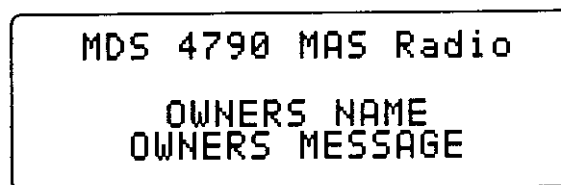

Figure 17. Startup Screen (Typical)
At initial power up (or after any extended period with no keypad activity), the LCD display shows the Startup screen (Figure 17). The startup screen displays the owner’s name and message. Typically shown is the system name and site name.
- **ESCAPE**—Returns you to the previously selected screen. It is a good way of cancelling a pending change. Also, by pressing the ESCAPE button three times, you can return to the Startup Screen (Figure 17) at any time.
- The radio displays the Startup screen similar to Figure 17